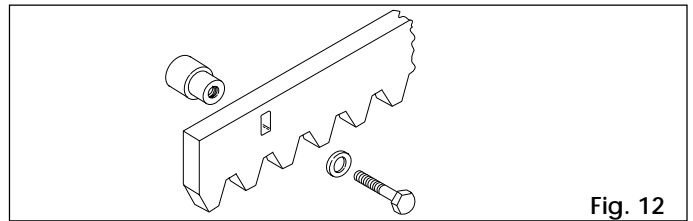

Fig. 12
**4.4.1. CREMALLERA DE ACERO PARA SOLDAR (fig. 12)**